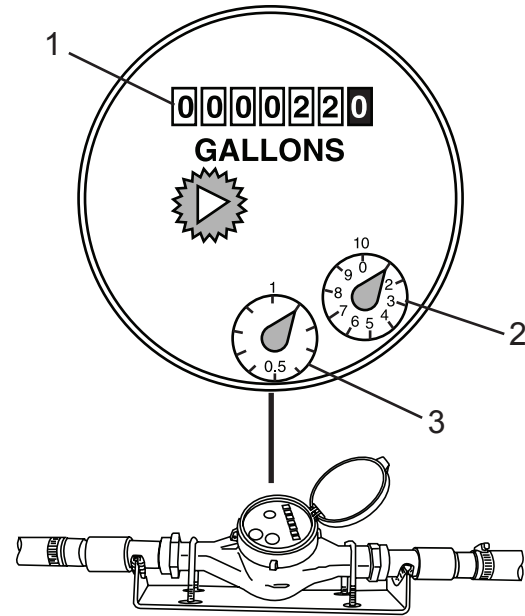

Figure 103
The Precision PMM™ water meter (Figure 103) is installed directly in the water supply line to monitor the amount of water used.
- a. Record the reading from the counter (Figure 103, Item 1), in this case 220 gallons (833 liters).
- b. Add the reading from the sweep hand on the “10” counter (Figure 103, Item 2), in this case 1 gallon (3.8 liter).
- c. Add the reading from the sweep hand on the “1” (tenths of a gallon) counter (Figure 103, Item 3), in this case 0.1 gallon (0.4 liter). The actual reading of the meter is 221.1 gallons (836 liters).